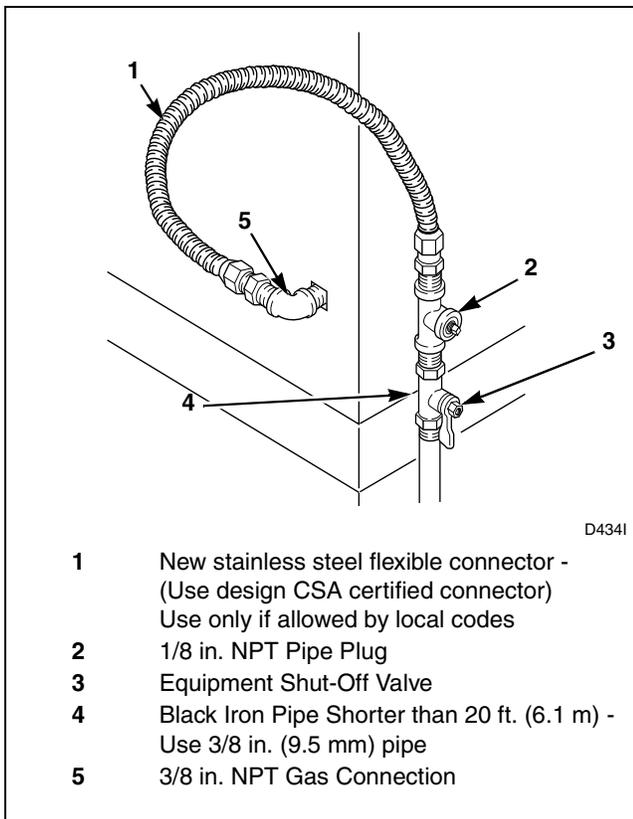

Figure 7
**NOTE: When connecting to a gas line, an equipment shut-off valve must be installed within 6 feet (1.8 m) of the dryer. An 1/8 in. NPT pipe plug must be installed as shown for checking inlet pressure. Refer to Figure 7.**